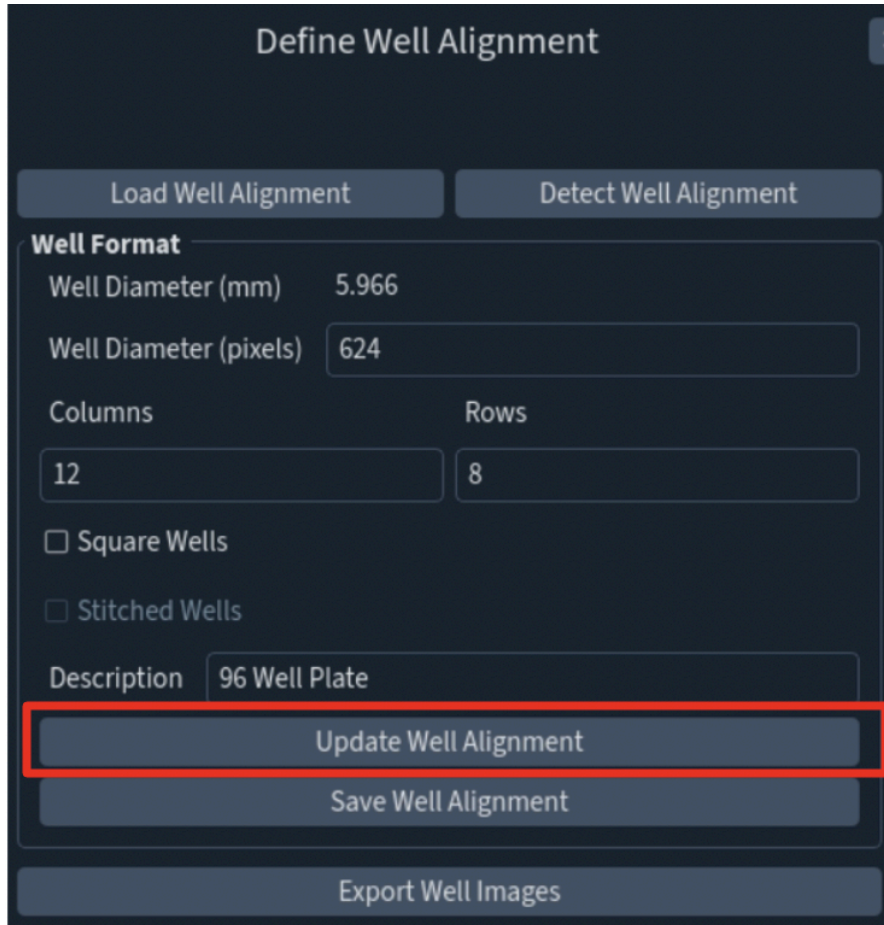

Fig 30: Well Alignment panel with “Update Well Alignment” option.
- 6) Once the four corner well indicators are aligned with the corner wells, click “Update Well Alignment” from the right panel to reposition the remainder of the indicator circles (Fig 30).